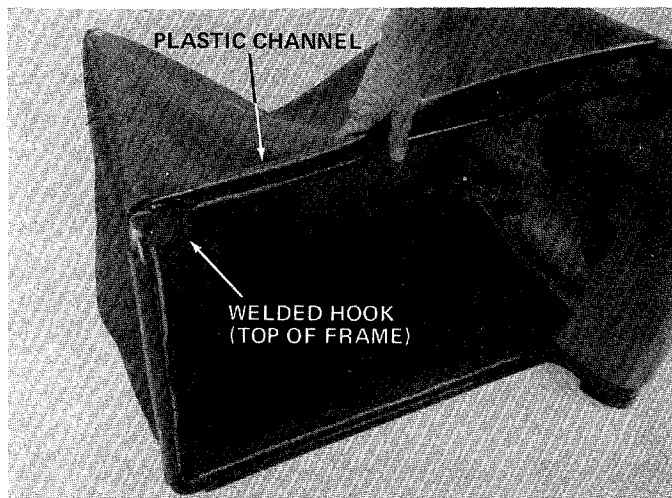

FIGURE 5
- Place the grass catcher bag over frame assembly. The top and bottom of bag is determined by the length of the plastic channel on edge of bag. The shorter channel will be the top. The top of frame has welded hooks. Secure the bag to frame by opening the plastic channel up by hand and snap over the frame. See figure 5.